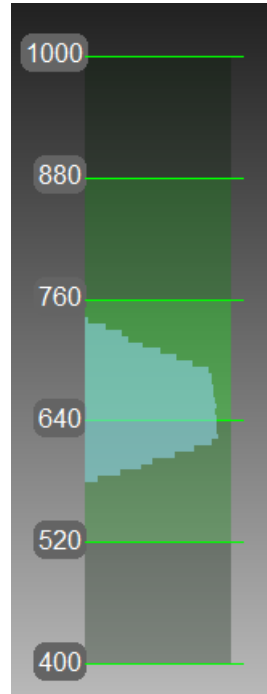

Figure 5.3.: Distance meter in *3D View* window showing surfaces that fall within the optimal range for Artec EVA.
- Try to position the scanner as close as possible to the center of the range meter¹ or a little below it (closer to the object; see Figure 5.3.)
¹ Technically, the center of the range meter is the center of the depth of view. The 3D scanner has near and far cutting planes (see Figure 3.2.) that determine the optimum distance between the scanner and the target object. Artec Studio offers the *Range meter* feature so you can easily visualize the distance between the scanner and the object during the recording process. The *Range meter* comprises a set of semitransparent diagrams located on the left side of the *3D View* window (see Figure 5.3.). Each histogram displays the distribution of captured surface points by distance from the scanner. The color corresponds to the set of surfaces from which it was obtained: by default, gray indicates registered key frames, light green indicates the last few frames of a registered sequence, dark green indicates the last successfully registered frame and red indicates a registration error.